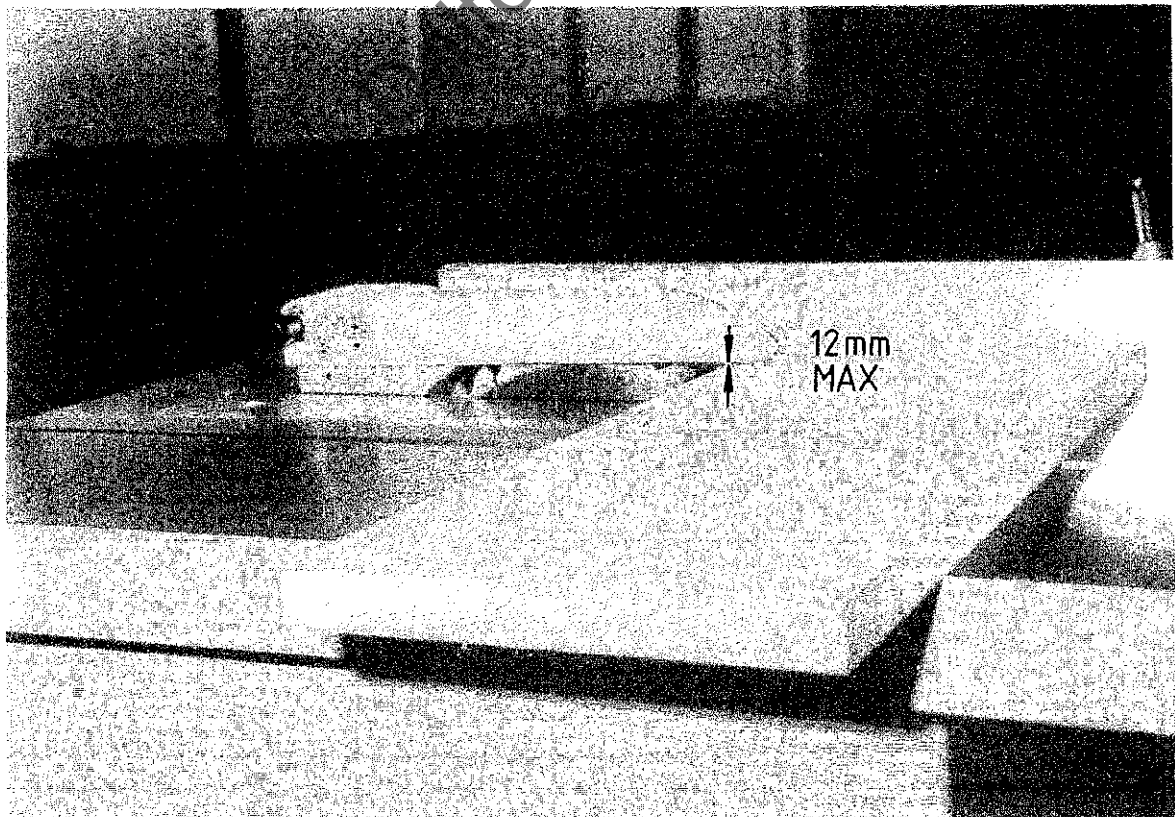

FIG.15
**IMPORTANT:** Sawguard must cover as much as is practicable. Clearance between sawguard and timber should never exceed 12mm FIG.15 (Woodworking Machine Regulations 1974 16(3)).